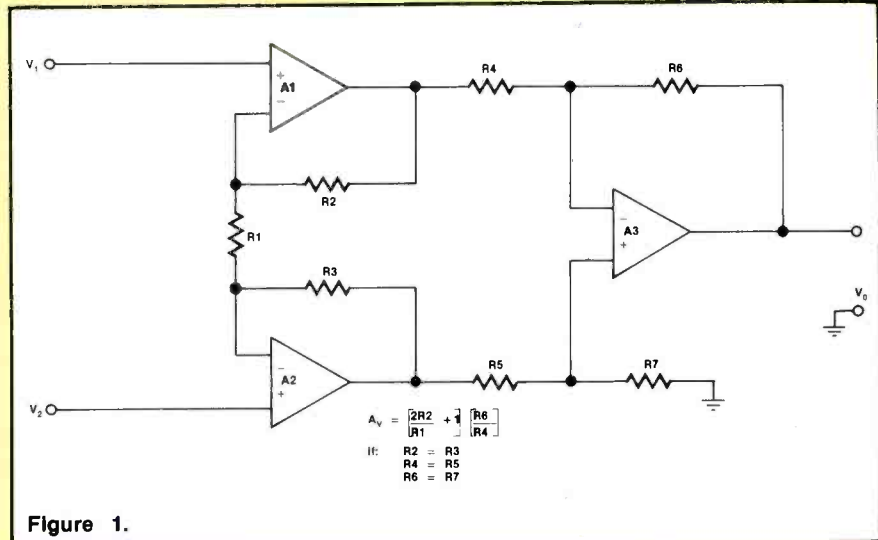

Figure 1.
This article will deal with IC versions of the classical instrumentation amplifier (IA) circuit. The IA provides an extremely high input impedance (similar to the non-inverting follower circuits), a high possible gain and easy design. The gain equation for this circuit is shown in Figure 1.
The IA circuit shown in Figure 1 consists of two sections: A1-A2 and A3. Amplifier A3 forms a simple dc differential amplifier, and obeys the same rules. The A1-A2 amplifier is a differential non-inverting input with differential output stage. Cascading these two forms of amplifier yields the in-
In many cases, where variable or adjustable gain is required, all resistors are fixed except R1. Care must be exercised, however, because R1 appears in the denominator of the equation in Figure 1. This location means that the gain can get very large when the resistance of R1 drops close to zero. In some cases, the designer will place a small-value fixed resistor in series with a variable resistor (potentiometer) to adjust gain, but limit it to a maximum.
ly new. The next big breakthrough came when the analog device designers made an IC version of Figure 1—the ICIA. Today, the manufacturers are offering better and better ICIA devices.